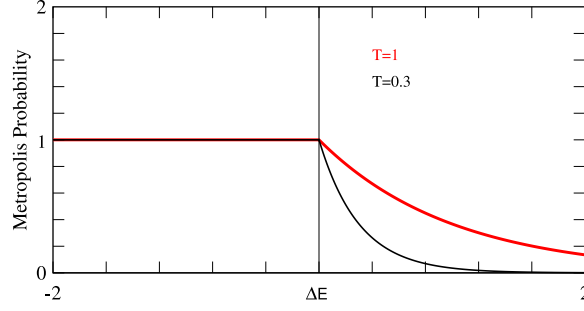

Figure 2: Metropolis rule of equation (2), taken from [1].
4. **Acceptance/Rejection rule:** Keep the update with the probability given by the Metropolis rule (figure 2):